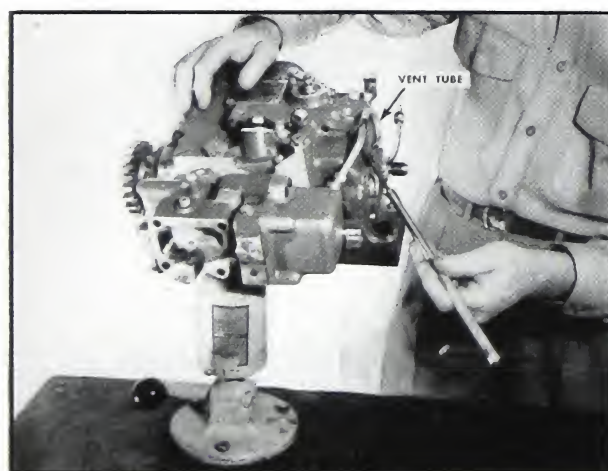

Fig. 5-185. Remove vent tube clamp
1. Remove the vent tube clamp mounting screws. Fig. 5-185.